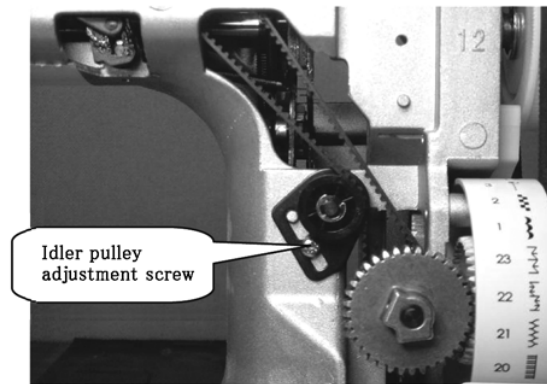

Fig.4
1. Loosen the idler pulley adjustment screw, adjust the idler pulley position.(Fig. 4)